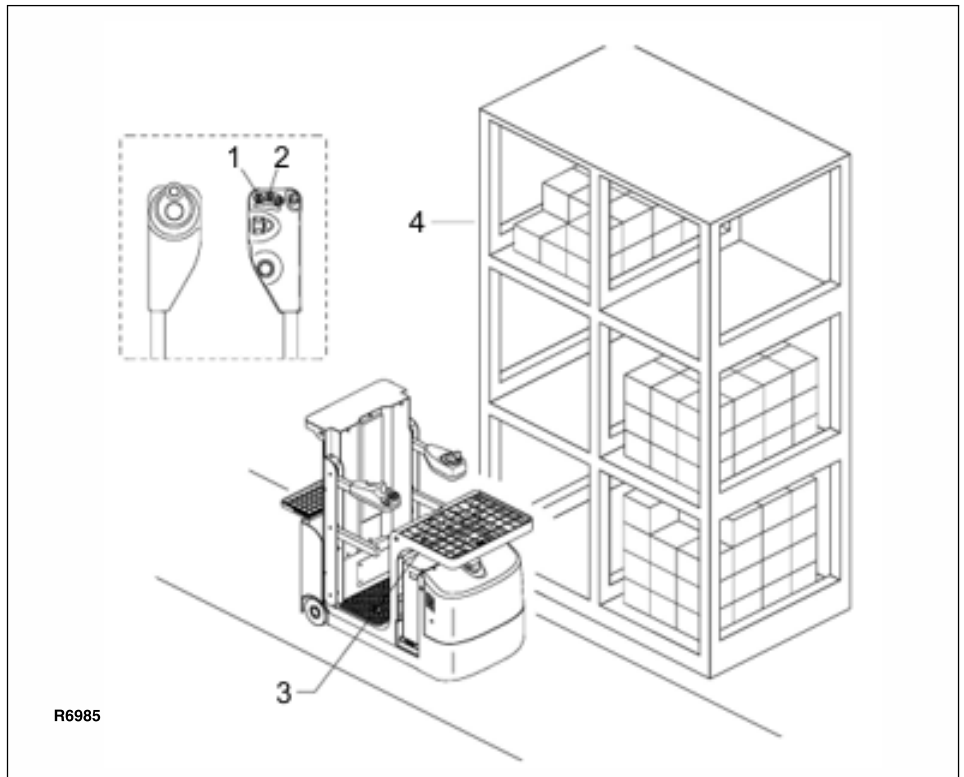

Figure 9 Order Picking
1. Drive the vehicle carefully up to the storage location (4, Figure 9).
2. Press the lift button (1) until pick tray (3) reaches the desired height.
3. Move the load from storage location (4) to tray (3).
4. Press the lower button (2) until the platform is completely lowered.